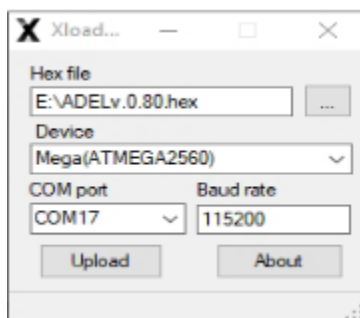

Figure 3 Xloader settings
8. Launch the Xloader updater program and configure Xloader according to Figure 3.